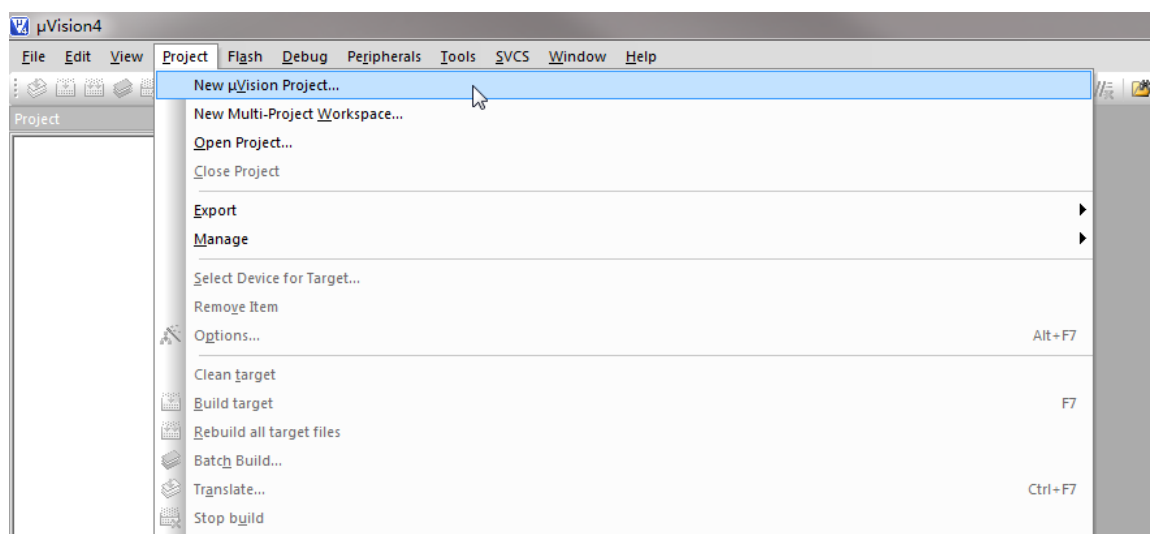
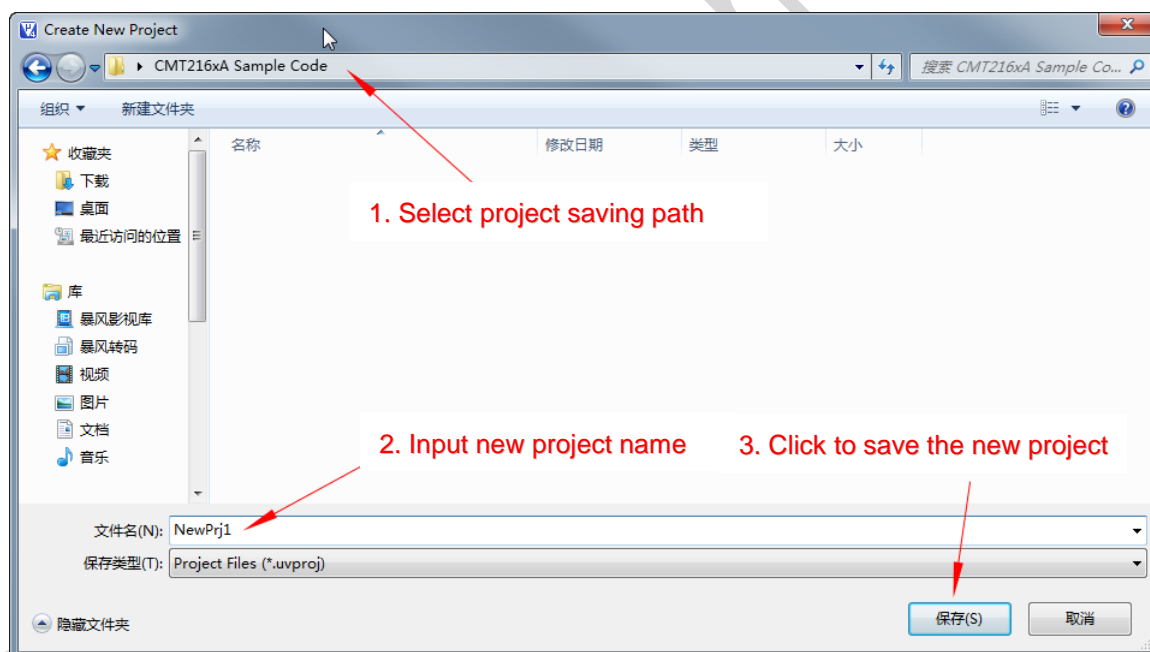

Figure 2. Project Menu
Figure 3. Create New Project
- Step 2, click *Project* menu, then click *New μ Vision Project...* sub-menu, *Create New Project* window pops up as shown in the below Figure 2 and Figure 3.